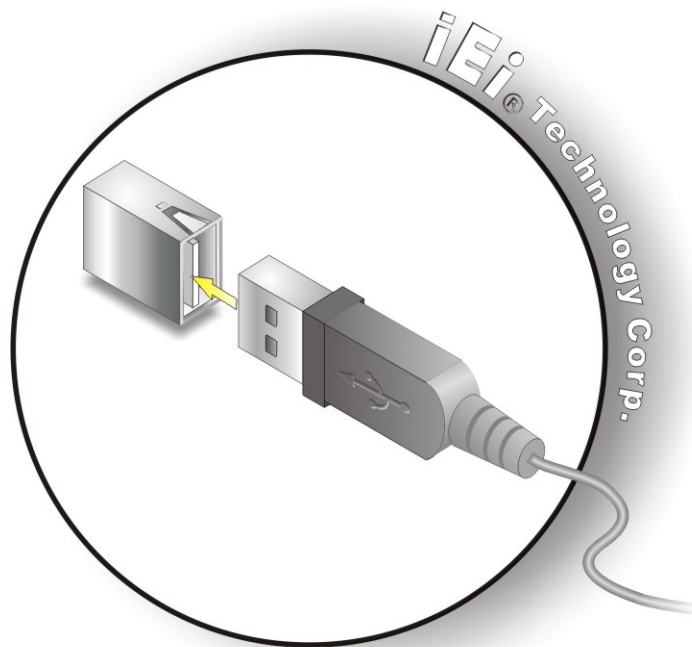

Figure 5-15: USB Device Connection
Step 2: Align the connectors. Align the USB device connector with one of the connectors on the SPCIE-3600AM2. See Figure 5-15.